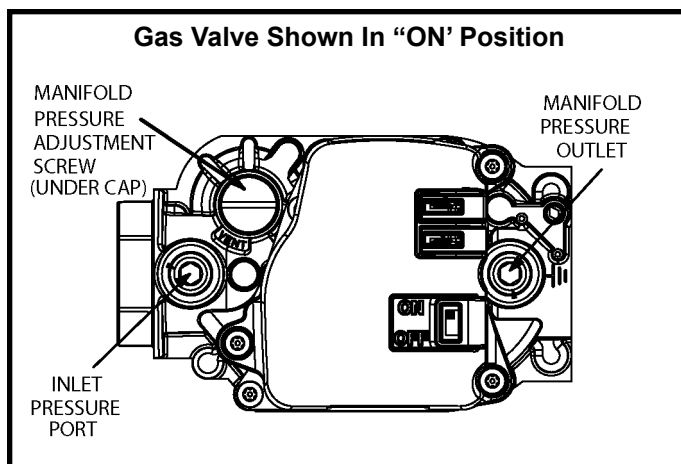

Figure 59
Gas Valve Operation (Figure 59)
6. Move gas valve switch to **OFF**. See Figure 59.
8. Move gas valve switch to **ON**. See Figure 59.